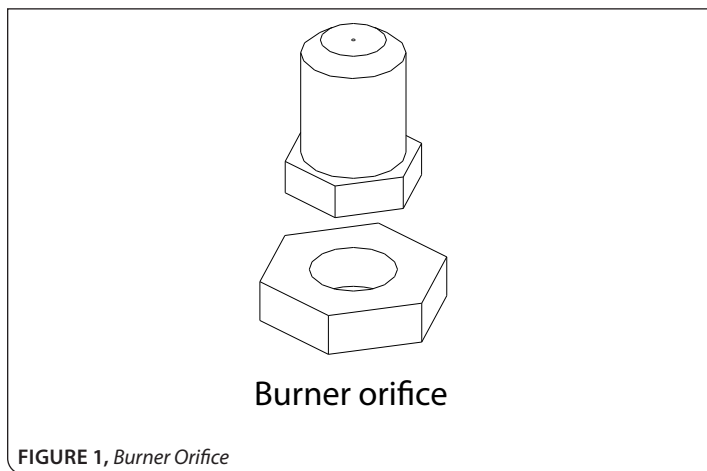

FIGURE 1, Burner Orifice
- Step 1: Remove the existing burner orifice. See FIGURE 1.